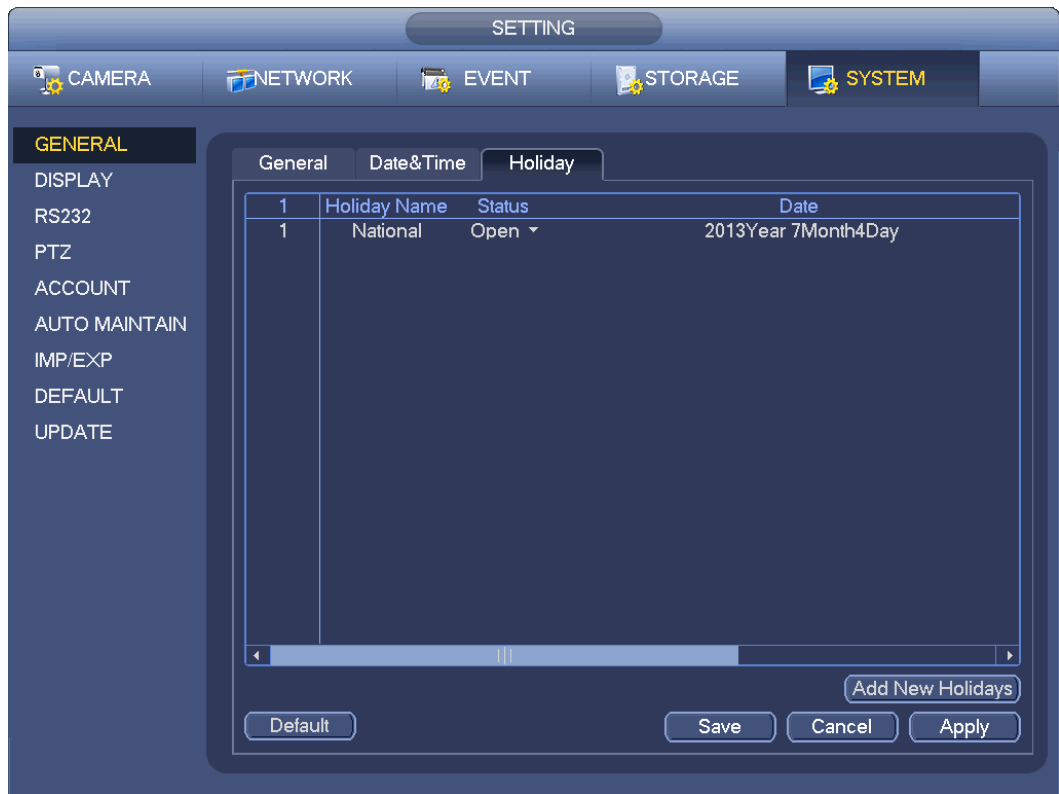

Figure 4-76
- a) From Mani menu->Setting->System->General, you can go to the following interface. See Figure 4-76.